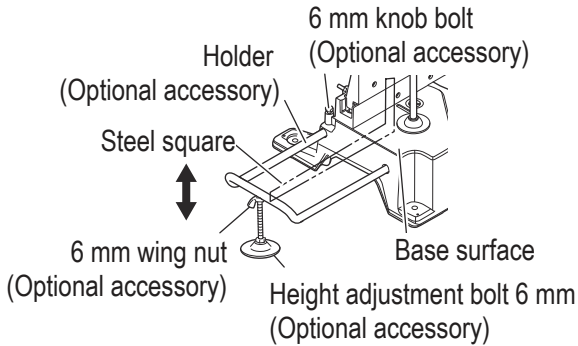

Fig. 28
- (1) As indicated in **Fig. 28**, use a steel square for aligning the upper edge of the holders with the base surface.